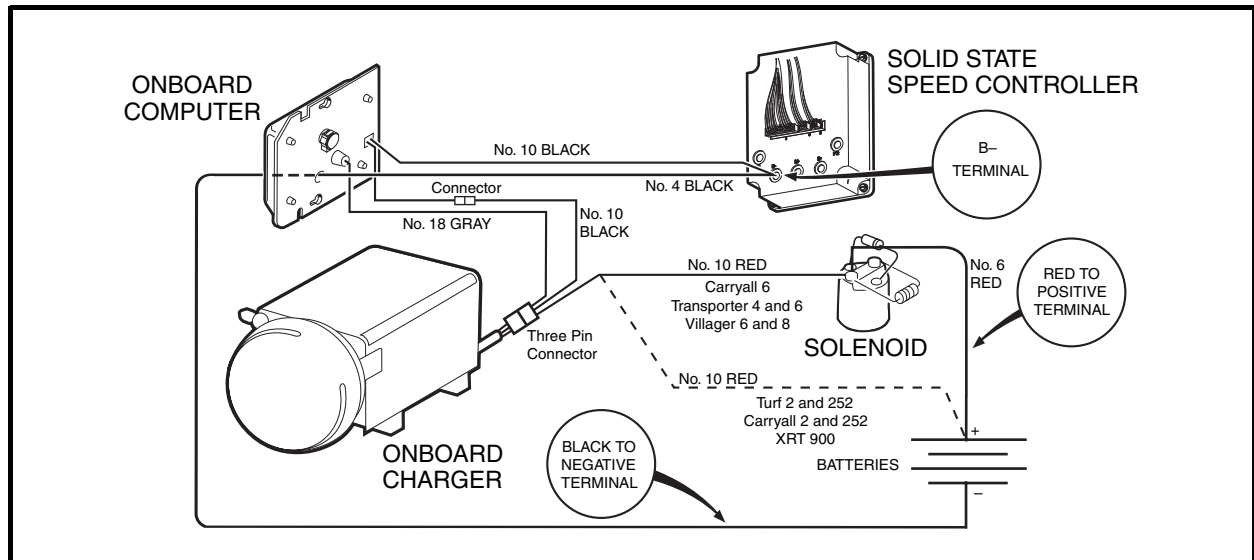
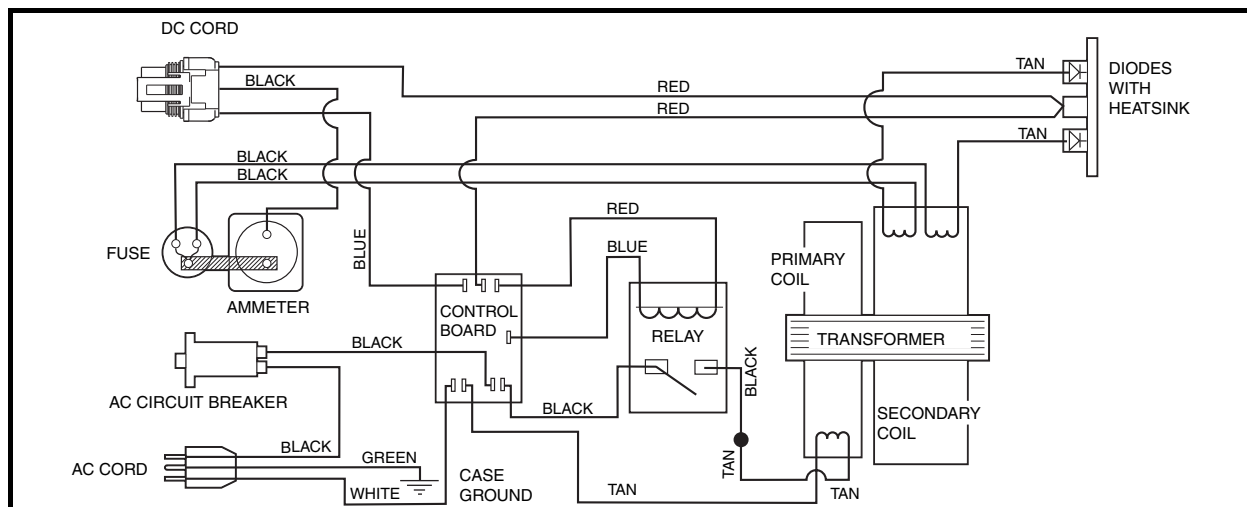
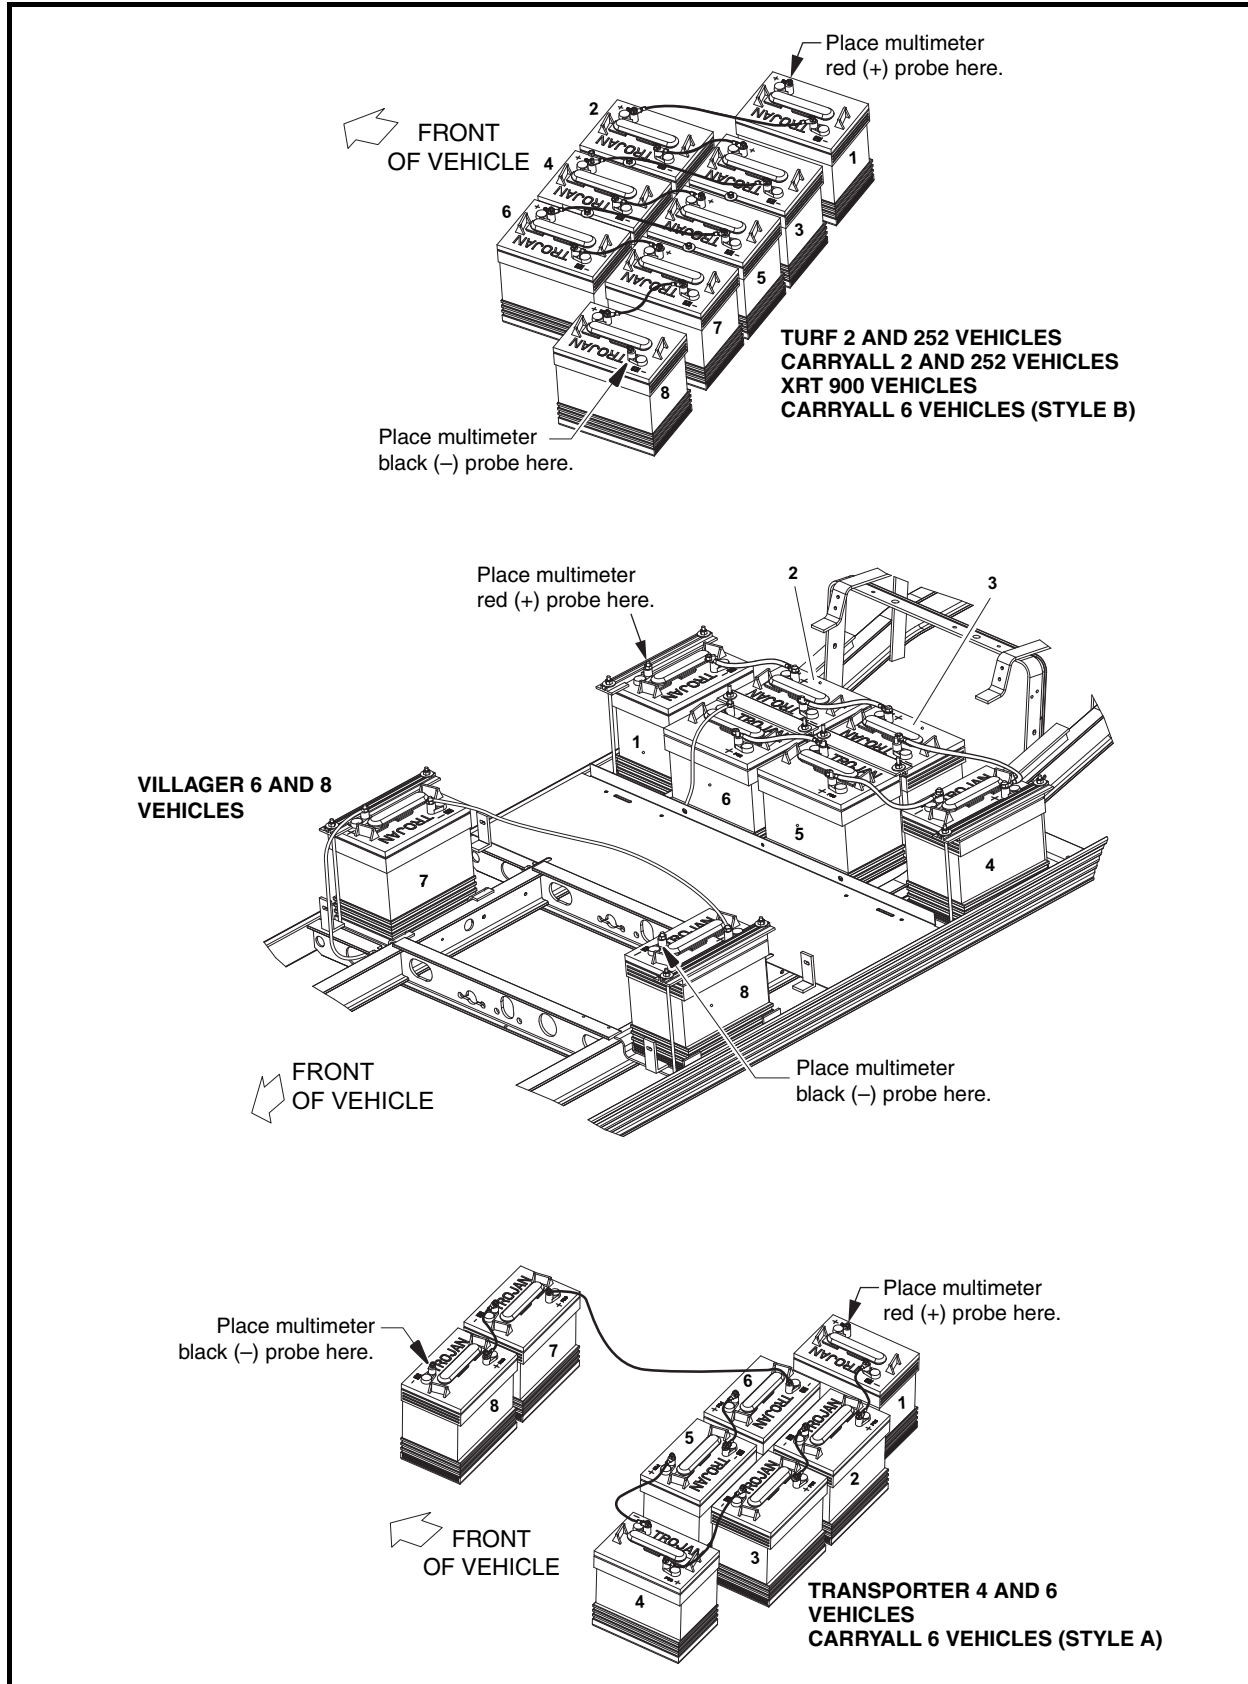

Figure 9-2 Charge Circuit
Figure 9-3 IQ Plus Onboard Battery Charger Wiring Diagram
Figure 9-4 Battery Configurations
ative (–) post of battery no. 8 (**Figure 9-4, Page 9-10**). The 10-gauge red wire of the charger is connected to the positive (+) post of battery no. 1 for Turf 2/252, Carryall 2/252 and XRT 900 vehicles, or the large post of the solenoid (battery side) for Carryall 6, Villager and TransPorter vehicles. The 18-gauge gray wire from the charger connects to the onboard computer (**Figure 9-2, Page 9-3**).
2. If the charger does not operate exactly as described above, refer to the wiring diagram and make sure that the vehicle is wired correctly (**Figure 9-2, Page 9-3**) and that the internal charger wiring is correct (**Figure 9-3, Page 9-6**).
- Knowledge of battery charger wiring and component terminology is required before attempting any repair (Figure 9-3, Page 9-6).
| | Improper vehicle or battery charger wiring | See Figure 9-2, Page 9-3, Figure 9-3, Page 9-6 and Figure 9-4, Page 9-10 |
2. With a multimeter set to 200 volts DC, measure the voltage of the battery pack between the positive (+) post of battery no. 1 and the negative (–) post of battery no. 8 (**Figure 9-4, Page 9-10**). Normal no-load voltage should be between 50 and 52 volts for fully charged batteries. The voltage of the battery pack must be over 32 volts DC to allow the onboard computer to close the charger relay. If battery pack voltage is too low to start charger, temporarily bypass the charger relay. **See Charging a Battery Pack that has Low Voltage on page 9-29.**